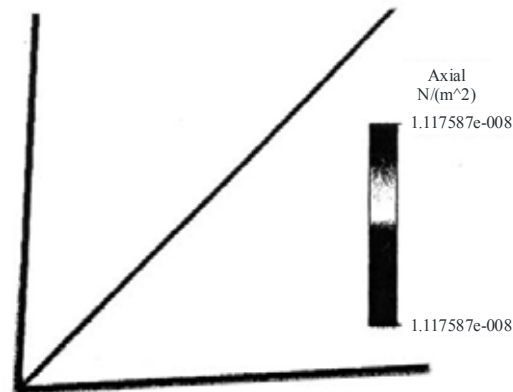

Figure 1
- 15.9** A uniform temperature increase of 10°C in each element yields zero stress for this special symmetric arrangement of the truss elements. See the table and figure 1 below showing the stresses from Algor to be zero in each element of the truss.
**15.10** Bodies that are statically indeterminate will have stress due to uniform temperature change. (see figure 2 in solution to P 15.9) except in special symmetry cases (see figure 1 and table of results in P15.9). Also see, for instance, example 15.1, figure 15-5 and P 15.3, P 15.4 and P 15.6.